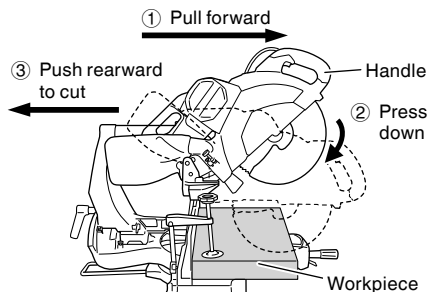

Fig. 28
Then press down on the handle and slide the saw blade back to cut the workpiece as indicated in Fig. 28. This facilitates cutting of workpieces of up to 4-3/16" (107 mm) in height and 12-1/4" (312 mm) in width.
- \* For slide cutting, follow the procedures indicated above in Fig. 28. Forward slide cutting (toward the operator) is very dangerous because the saw blade could kick upward from the workpiece. Therefore, always slide the handle away from the operator.